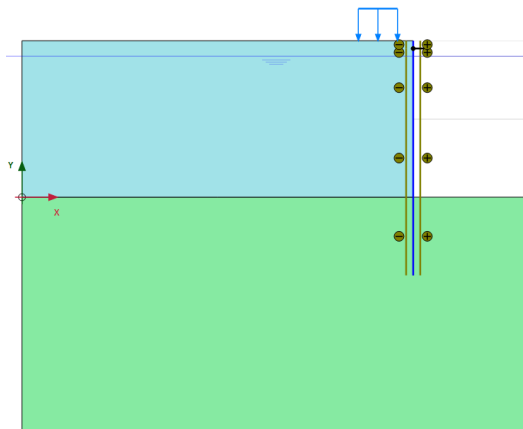

Figure 2.12 Model view for the third excavation phase
- In the final calculation stage the excavation of the last clay layer inside the pit is simulated. Deactivate the third cluster from the top on the right hand side of the mesh (Figure 2.12).